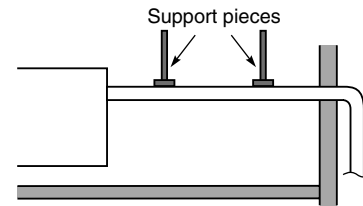

Fig. 3-65-4
- Do not apply force to the piping on the unit side when connecting the drain pipe. The pipe should not be allowed to hang unsupported from its connection to the unit. Fasten the pipe to a wall, frame, or other support as close to the unit as possible. (Fig. 3-65-4)